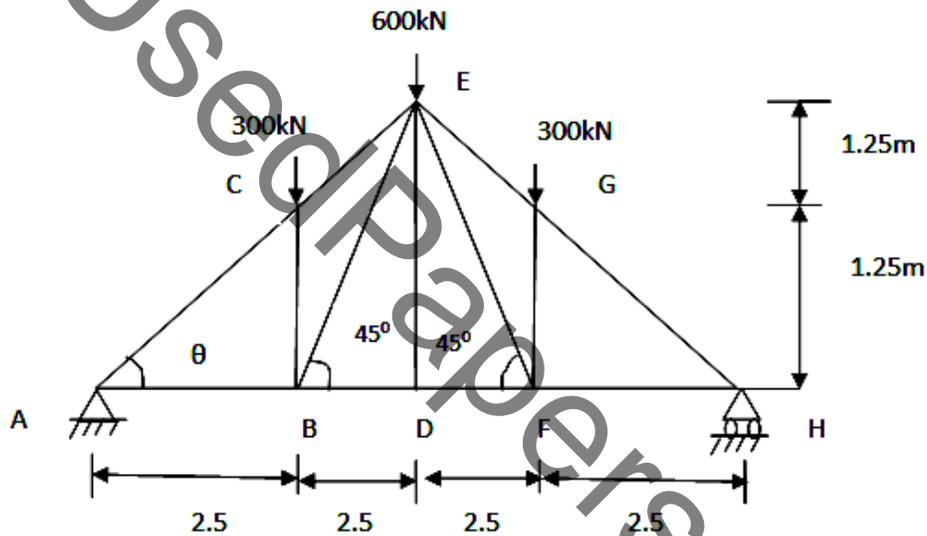

Figure: 1
1. Analyze the pin jointed truss as shown in figure 1 by the method of joints. [15]